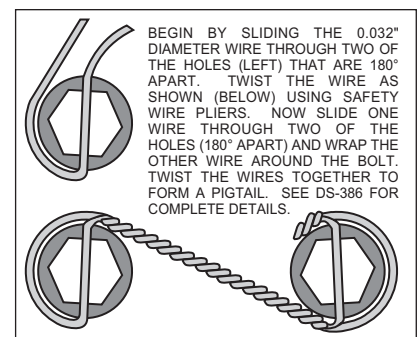

Figure 3. Safety Wire Diagram
- The spindle bracket (1) and the caliper bracket (2) have been assembled at the factory for alignment purposes. Loosen the two bolts that secure the brackets together so that the bolts are hand tight only, this will enable the bracket assembly (1 and 2) to be adjusted to accommodate various spindle tolerances during assembly. Bolt the lower portion of the bracket assembly (1) to the backing plate face of the spindle using two bolts (3) and two lock nuts (4), hand tighten only. Install bolt (6) through caliper bracket (2), placing the spacer (5) between the bracket and the steering arm. Torque two bolts (3) to 47 ft-lb. Apply red *Loctite*® 271 to the bolt threads (6) and torque to 120 ft-lb. Remove one of the bolts that secure the bracket assembly (1 and 2) to each other. Apply red *Loctite*® 271 to the bolt threads and reinsert into the bracket assembly. Repeat this procedure for the second bolt. Torque these two bolts to 30 ft-lb. **NOTE:** Be sure the heads of the bracket assembly (1 and 2) insert nuts are facing outward toward the wheel.
- Install five new wheel studs (7) into the hub (8). Torque to 77 ft-lb. **NOTE:** There are two five lug patterns in the hub (5 x 4.50 and 5 x 4.75). Make sure of the correct hole pattern for the correct wheel application before installing studs into hub.
- Pack the large inner bearing cone (9) with high temperature disc brake bearing grease (available from your local auto parts store) and install into the backside of the hub (8).
- Install the grease seal (10) by pressing into the backside of the hub (8).
- Attach rotor adapter (11) to rotor (12) using eight bolts (13). Torque bolts (13) to 180 **in-lb**. Safety wire bolts (13) using standard 0.032 inch diameter stainless steel safety wire as shown in Figure 3. Please refer to Wilwood's data sheet DS-386 (available at [www.wilwood.org/ds386.pdf](http://www.wilwood.org/ds386.pdf)) for complete safety wire installation instructions. **NOTE:** The flat side of the rotor (12) lugs faces toward the rotor adapter (11) with the dished side of the rotor adapter (11) facing away from the rotor (12).
- Mount the adapter/rotor assembly (11 and 12) to the hub (8) using five flat washers (14) and five bolts (15). Torque bolts (15) to 22 ft-lb. Safety wire bolts (15).
- Pack the small outer bearing cone (16) with high temperature disc brake bearing grease. Lightly coat the spindle bearing surfaces with bearing grease. Slide the hub/rotor assembly (8 and 12) with outer bearing cone (16) onto the spindle. Secure using spindle washer (17), existing adjusting nut and nut locking device.